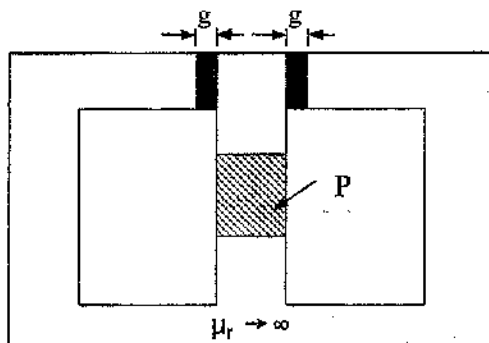

Fig.2 Magnetic circuit of Q_2 (b)
- The device shown in the Fig. 2 is a practical form of magnet. It is cylindrical about a horizontal axis. The coil has 1300 turns and carries a constant current of 2.5 A. If the mmf in the iron is neglected. [12Mark/a.4,1,b.5,1, and c.1,1]
- Fig. 2 shows a magnetic circuit of iron of high permeability. Two air gaps each of length g and area A_g and a permanent magnet (PM) of length l_m and area A_m .